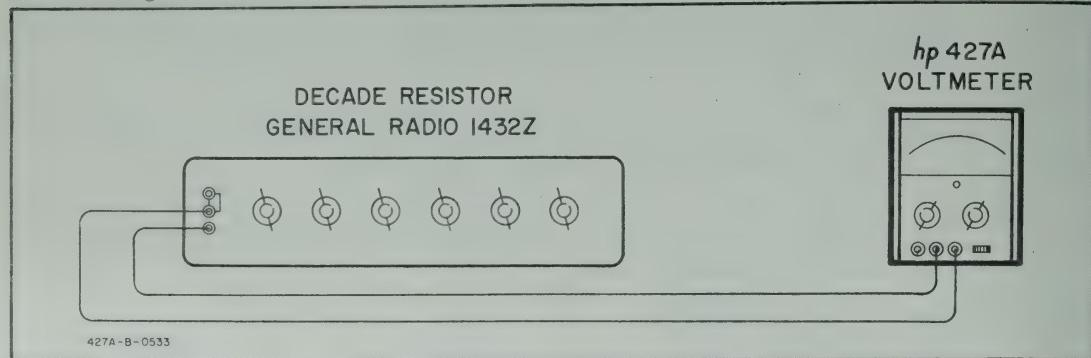

Figure 5-2. Resistance Accuracy Check
Paragraphs 5-14 to 5-17 and Figure 5-2 and Table 5-2
5-15. To check the resistance accuracy, precision resistances are needed. Figure 5-2 shows the resistance accuracy check using a General Radio Model 1432Z decade resistor. The resistance used should be accurate to within $\pm 0.5\%$ and should have a range of 10 ohms to 10 M ohms.
- Connect the decade resistor and the Model 427A as shown in Figure 5-2, and set the decade for 10 Ω .